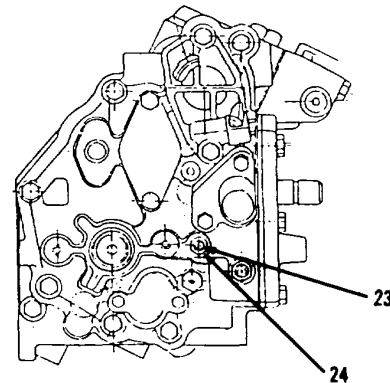

Figure 3-109.
1. Hold body (23, Figure 3-109).
2. Turn screw (24) clockwise until screw stops.